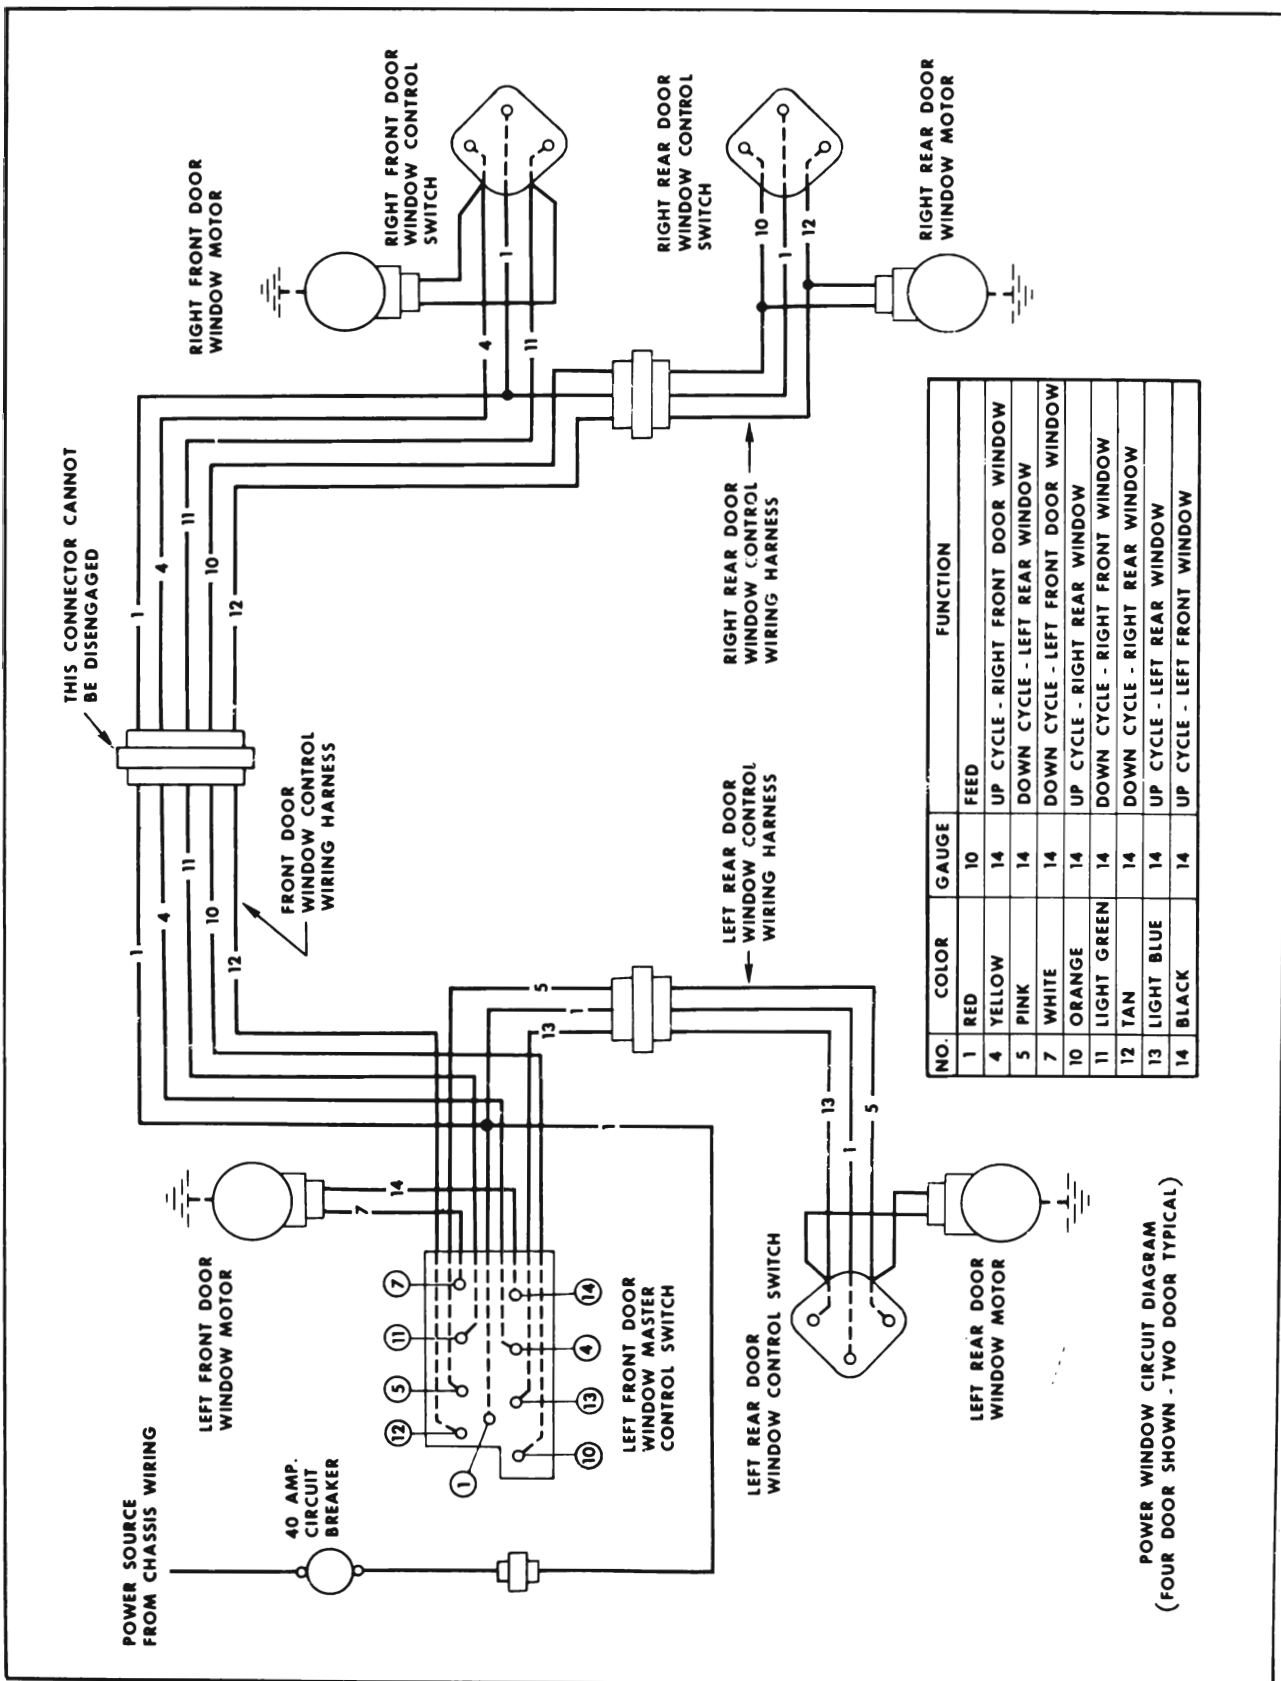

Figure 8-2—Left Side Power Windows and Body Wiring
2. **Rear Door or Rear Quarter Window Harness** - A separate harness controls the operation of the right and left rear door or quarter windows. The right and left harnesses are connected to the front cross-over harness beneath the outer ends of the instrument panel. See Figures 8-2 and 8-3.